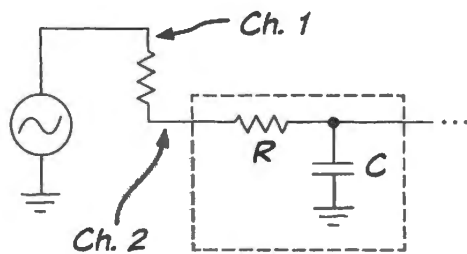

Figure 2L.3 Test setup to use R_{IN} to reveal *R*.
- How will you know that it is the effect of *R* that you are observing, rather than some combination of *R* and X_C ? (*Hint*: do you see a phase shift between the waveforms on Channels 1 and 2?) *Note*: keep f_{IN} under about 1MHz, so as not to complicate your search with the effect of the BNC cable's capacitance to ground. That capacitance – about 30pF/foot – becomes important at high frequencies; it forms a low-pass with R_{Thevenin} at the point marked “Ch. 2” in Fig. 2L.3. So, as you push the frequency high, looking for the disappearance of phase shift, you will be frustrated if you go too far!